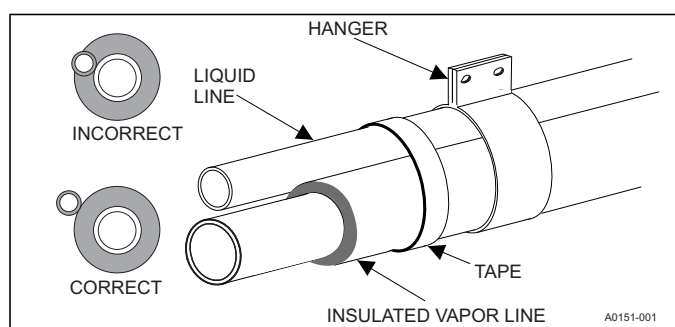

FIGURE 3: Installation of Vapor Line
5. Tape and suspend the refrigerant lines as shown. DO NOT allow tube metal-to-metal contact. See Figure 3.